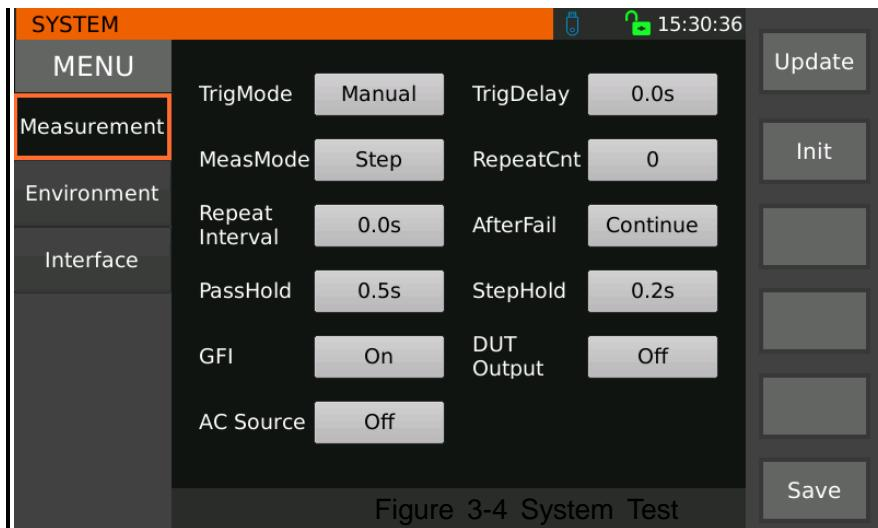

Figure 3-4 System Test
1. Press **【SYSTEM】** key to enter the system setting interface shown in Figure 3-4.
The test-related parameter settings in the system setup are shown in Figure 3-4.
If the AC power supply setting in Figure 3-4 System Test Parameter Setting is set to "On", the setting option of AC power supply will be added when entering the Electrical Performance Test Setting Interface (Figure 3-29) and Leakage Current Test Setting Interface (Figure 3-33). The output voltage (test voltage), test frequency, upper limit of current, whether zero line is grounded or not (zero-line grounding), voltage range, and overload constant current of AC power supply can be set, and the detailed parameter description can be found in the description of AC power supply in 3.5.6 and 3.5.7.